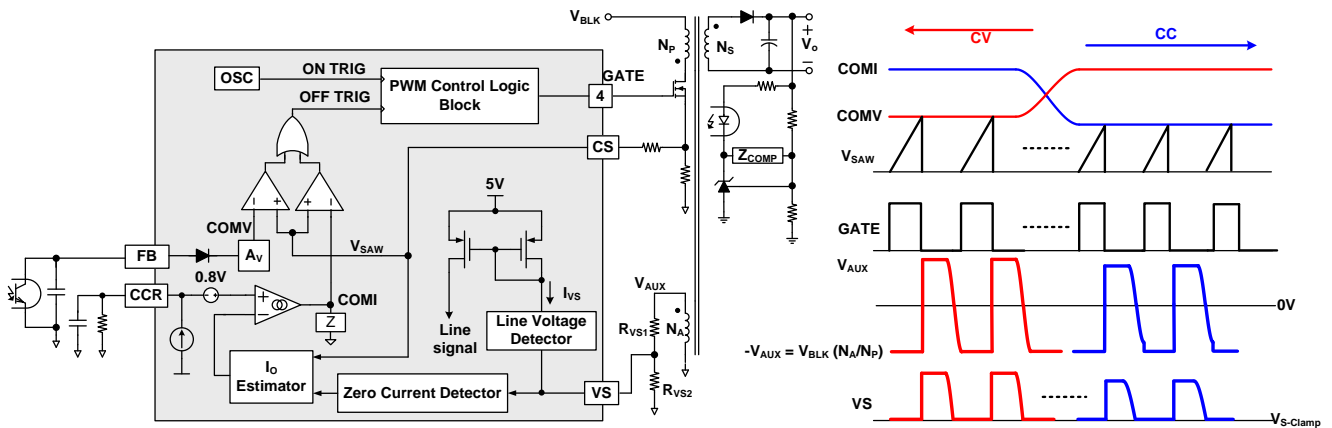
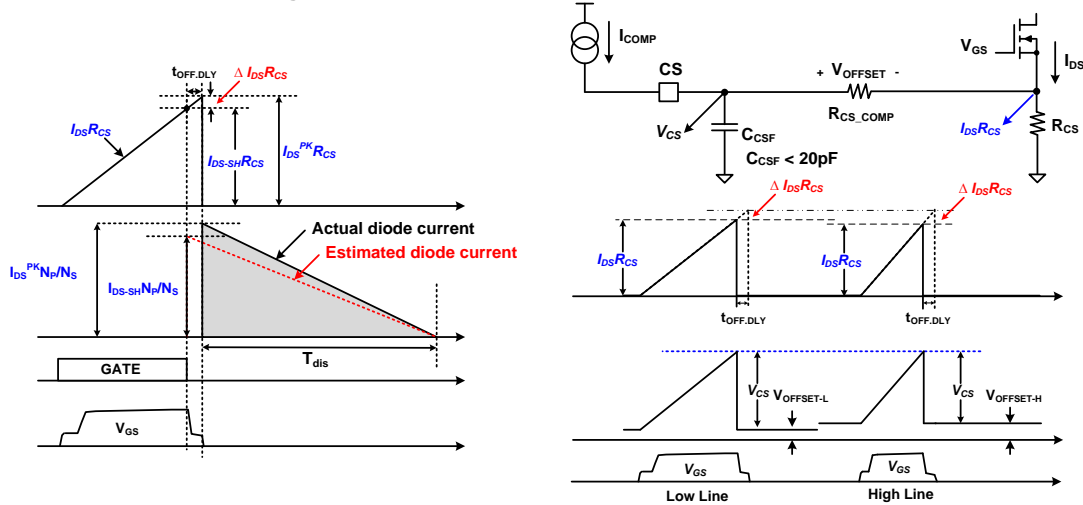

Figure 27 Simplified PWM Control Circuit and PWM Operation for CV/CC Regulation
Figure 29 Effect of MOSFET Turn-off Delay and Line Voltage Compensation
The FAN604 indirectly senses the line voltage through the VS pin while the MOSFET is turned on, as illustrated in Figure 27. MOSFET turn-on period, the auxiliary winding voltage, V_{AUX} , is proportional to the input bulk capacitor voltage, V_{BLK} , due to the transformer coupling between the primary and auxiliary windings. During the MOSFET conduction time, the line voltage detector clamps the VS pin voltage to $V_{S-Clamp}$ ($0 V$), and then the current I_{VS} flowing out of VS pin is expressed as:
Figure 27 shows a simplified CV / CC PWM control circuit of the FAN604. The Constant Voltage (CV) regulation is implemented in the same manner as the conventional isolated power supply, where the output voltage is sensed using a voltage divider and compared with the internal reference of the shunt regulator to generate a compensation signal. The compensation signal is transferred to the primary side through an opto-coupler and scaled down by attenuator A_V to generate a COMV signal. This COMV signal is applied to the PWM comparator to determine the duty cycle.
These two control signals, COMV and COMI, are compared with an internal sawtooth waveform (V_{SAW}) by two PWM comparators to determine the duty cycle. Figure 27 illustrates the outputs of two comparators, combined with an OR gate, to determine the MOSFET turn-off instant. Either of COMV or COMI, the lower signal determines the duty cycle. During CV regulation, COMV determines the duty cycle while COMI is saturated to HIGH level. During CC regulation, COMI determines the duty cycle while COMV is saturated to HIGH level.
The output current estimation is also affected by the turn-off delay of the MOSFET as illustrated in Figure 29. The actual MOSFET's turn-off time is delayed due to the MOSFET gate charge and gate driver's capability, resulting in peak current detection error as
Where L_m is the transformer's primary side magnetizing inductance. Since the output current error is proportional to the line voltage, the FAN604 incorporates line voltage compensation to improve output current estimation accuracy. Line information is obtained through the line voltage detector as shown in Figure 27. I_{COMP} is an internal current source, which is proportional to line voltage. The line compensation gain is programmed by using CS pin series resistor, R_{CS_COMP}, depending on the MOSFET turn-off delay, t_{OFF_DLY}. I_{COMP} creates a voltage drop, V_{OFFSET}, across R_{CS_COMP}. This line compensation offset is proportional to the DC link capacitor voltage, V_{BLK}, and turn-off delay, t_{OFF_DLY}. Figure 29 demonstrates the effect of the line compensation.